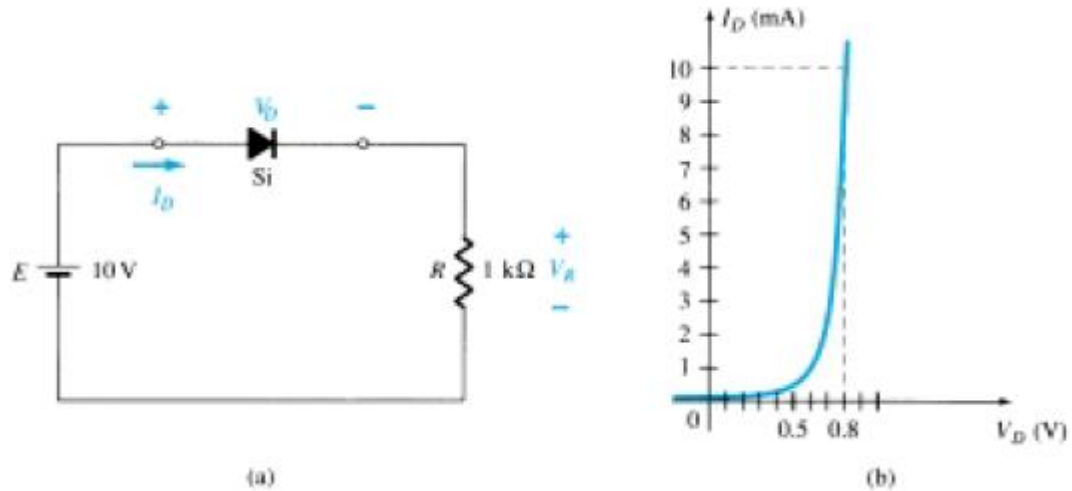

Fig. 6.6: Example 6.1.
**Example 6.1:** For the series diode configuration of Fig. 6.6 (a) employing the diode characteristics of Fig. 6.6 (b) determine: